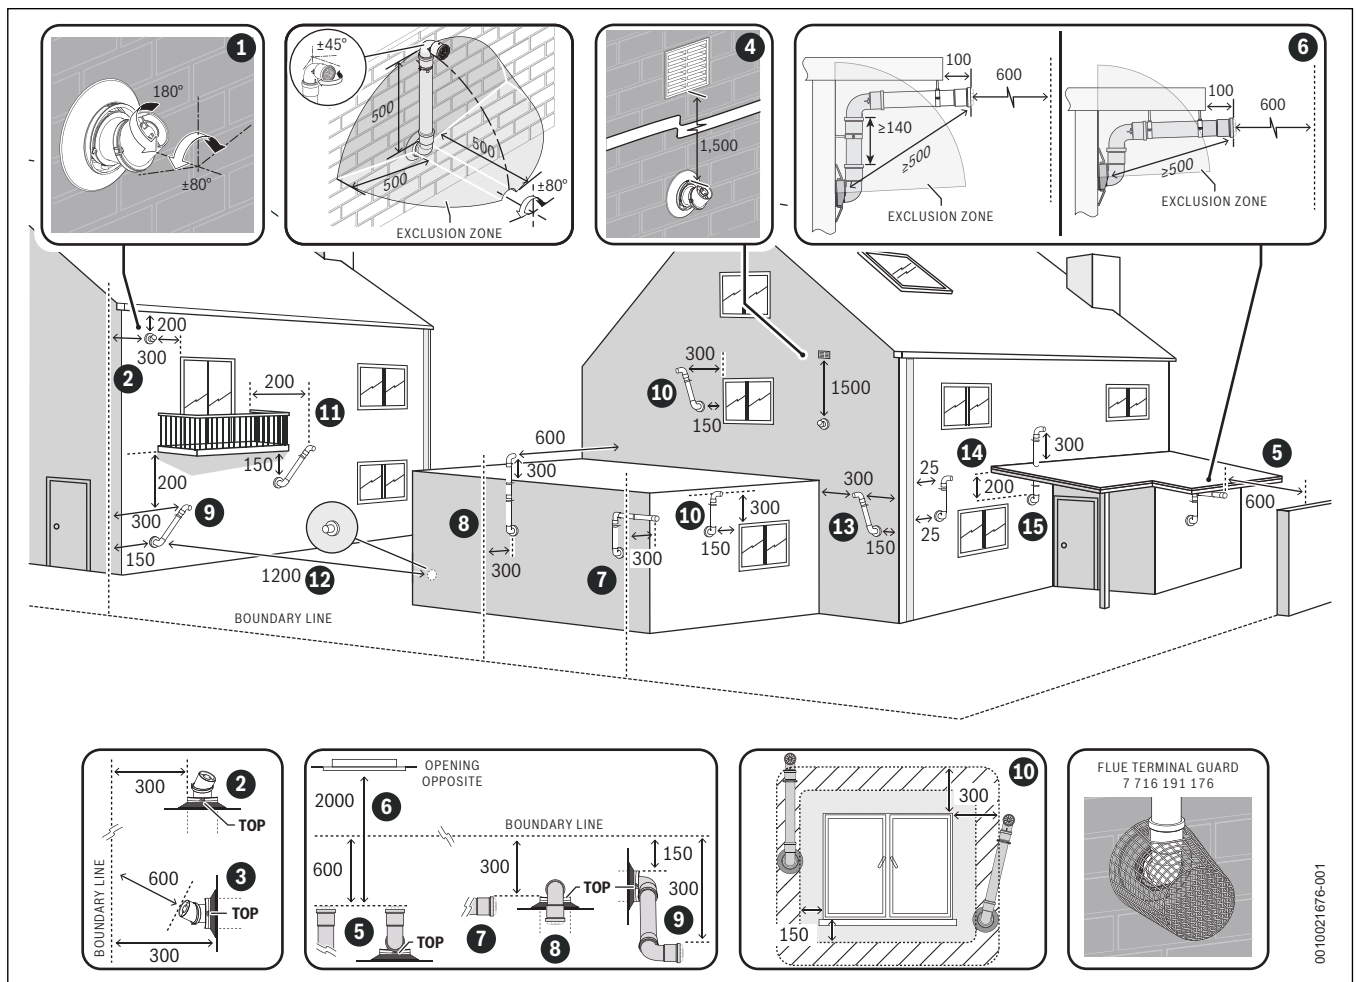

Fig. 31 Plume re-direct and plume management terminal positions
- ▶ Refer to “Horizontal flue terminal positions” for all concentric flue terminal positions unless the flue position is specified in figure 31 “Plume re-direct and plume management terminal positions”.
Key to figure 31 - Plume re-direct terminal positions:
Key to figure 31 - Plume management terminal positions: